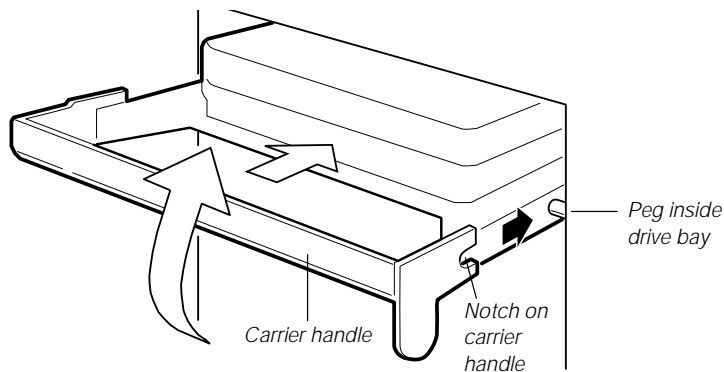

Figure 22: Installing a New Drive
9. Push the drive into the bay. To engage the latch, the carrier handle should be approximately at a 45° angle from the vertical front of the chassis. As you push the drive into the bay, the two rounded notches in the carrier handle (Figure 22) slide onto the two round pegs inside the drive bay. When they engage, push the handle straight up to lock the notches onto the pegs and press the rounded tab on the right of the carrier to the left until it clears the edge of the bay and snaps into place.